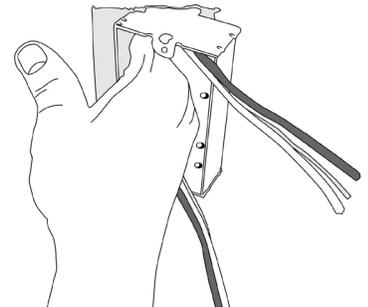

Figure 4
4. The design of the box permits its removal without damaging the drywall (Figure 4).